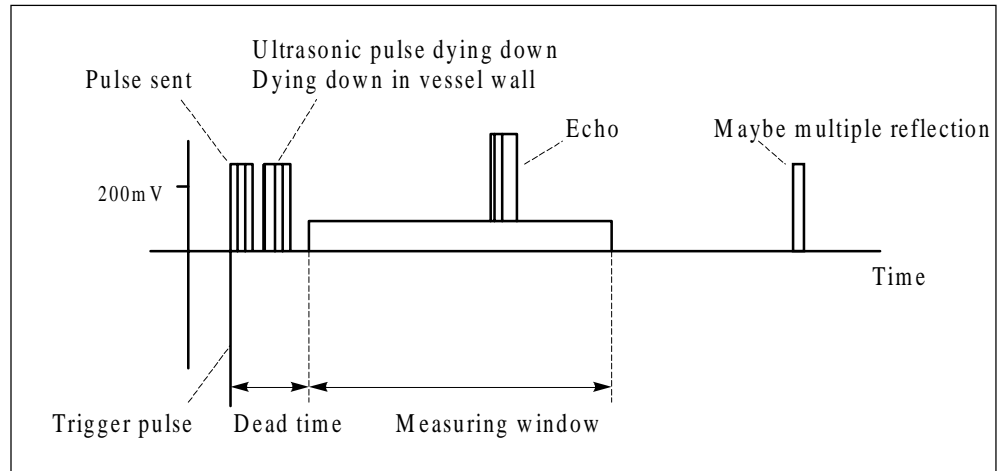

Figure 9: Echo detection in liquid level metering
- If no echo pulses can be seen as illustrated in figure 9, increase the transmission energy (P 03) and/or the gain (P 04) until ultrasonic signals are received continually. Please note that the liquid may be turbulent, e. g., caused by a stirrer or from filling.